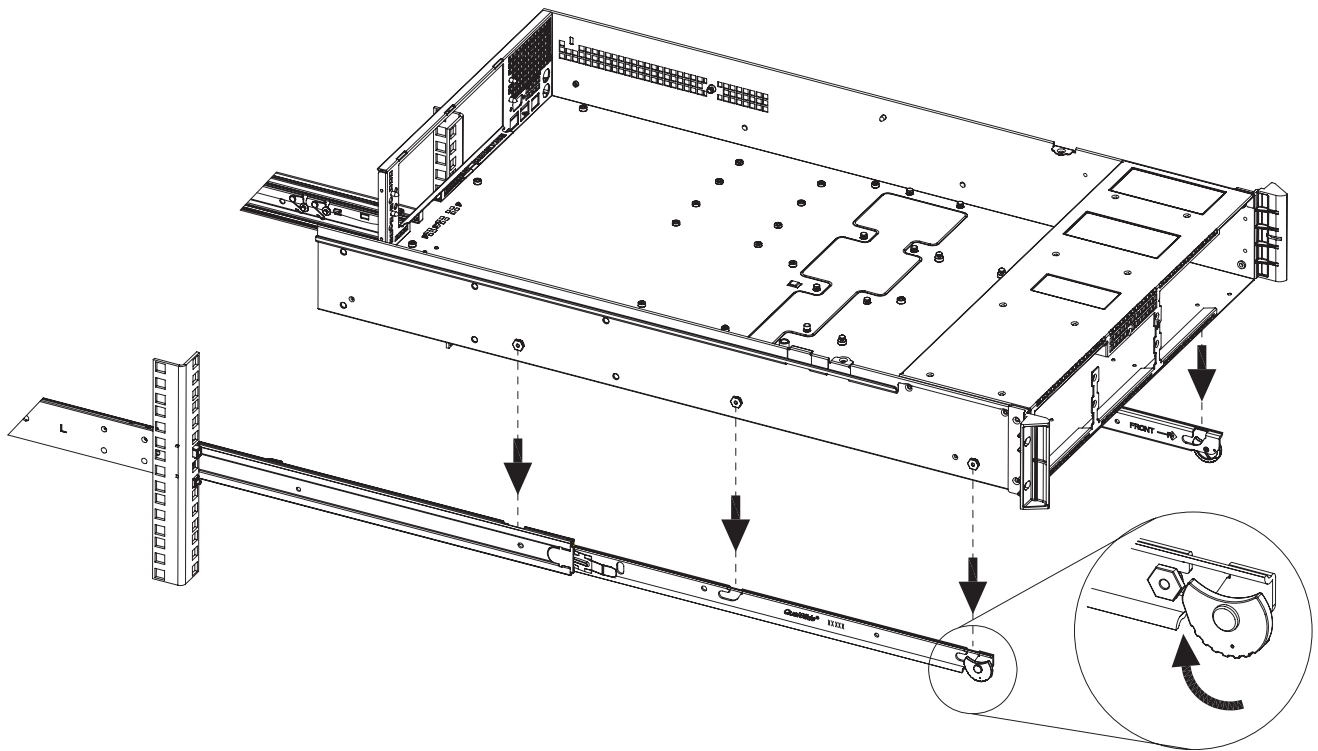

Figure C-3 Attaching Chassis to Rail Slides
3. Attach the chassis to the rail slides as shown in Figure C-3.